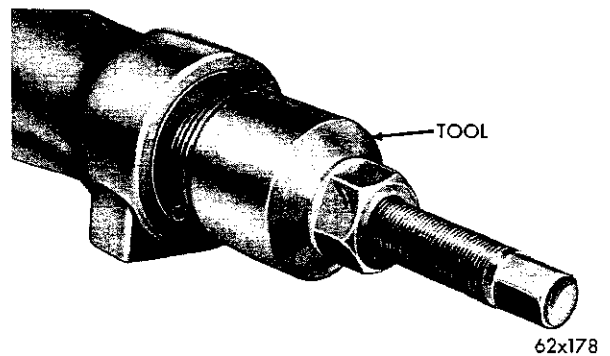

Fig. 33—Removing Output Shaft Oil Seal
(3) Screw the taper threaded end of Tool C-748 into the seal (Fig. 33) then tighten the screw of the tool to remove the seal.